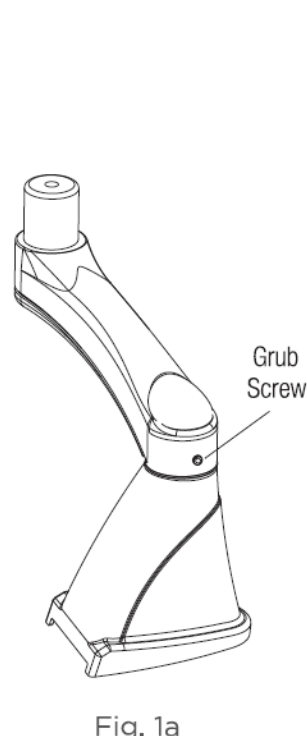

Fig. 1a
- Tighten the grub screw shown in Fig. 1a.